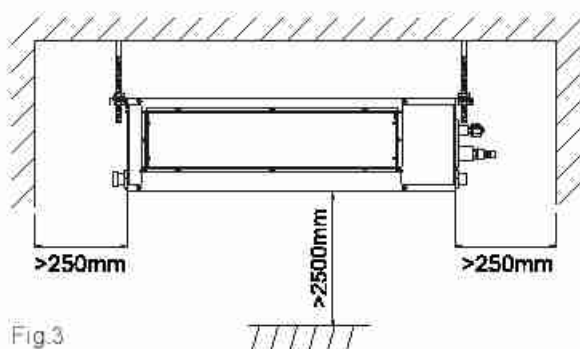

Fig.3
4. Ensure the installation space shown in Fig.3 is left for the access to maintenance.